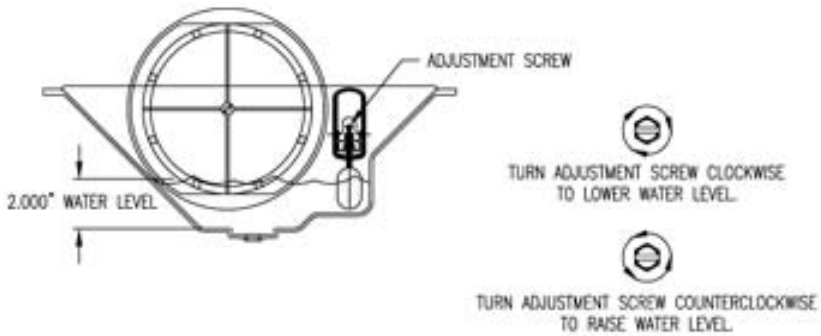

FIGURE 17: Water Level Adjustment for Model 86
- 4. Prior to mounting the pan on the duct, set the pan on a flat surface to check and adjust the water level to approximately 2" (5.08 cm), as shown in Figure 17 (page 15.).